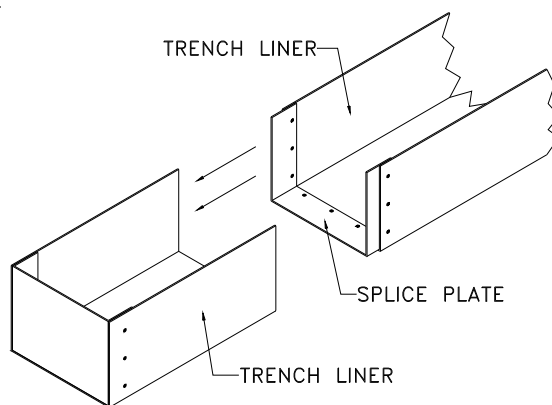

Figure 12
STEP 5. Slide the free end of the attached splice plate into the receiving end in the mating section of the trench liner (see Figure 12). Ensure that the mating sections of the trench liner are level, the proper width, and properly aligned. Ensure that the mating sections of the liner abut as closely as possible with one another.